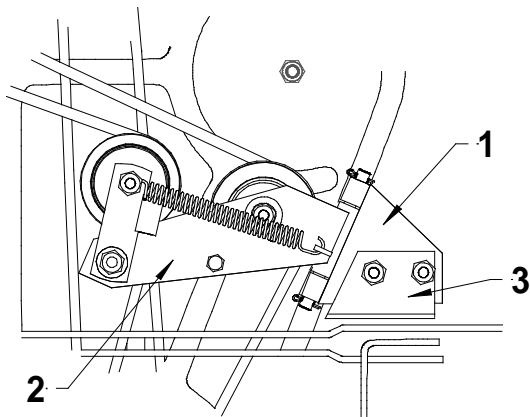

Figure 4
2. Install the double idler pulley assembly with the hinge underneath the bracket and secure with the same bolts and nuts (fig. 4).